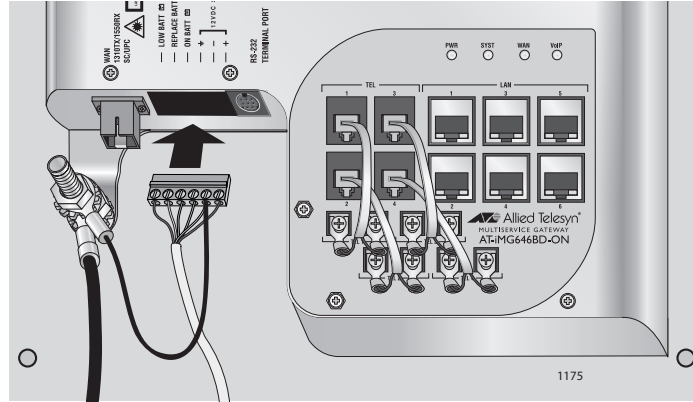

Figure 52. Plugging in the DC Terminal Block
12. Plug the terminal block into the DC power socket, as shown in Figure 52.